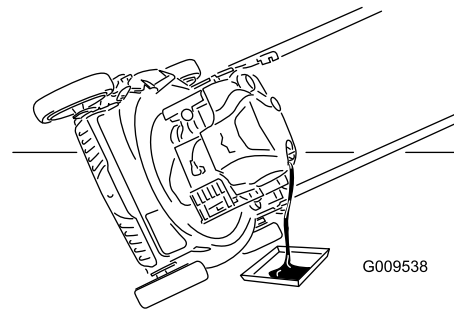

Figure 26
3. Tip the mower onto its side with the air filter up to drain the used oil out through the oil fill tube (Figure 26).
4. **Slowly** pour oil into the oil fill tube until the oil level reaches the **Full** line on the dipstick (Figure 26). Wait 3 minutes after adding oil to check the oil level with the dipstick. **Do not overfill.** (Max. fill: 20 oz. (0.59 l), type: SAE 30 detergent oil with an API service classification of SF, SG, SH, SJ, SL, or higher.)